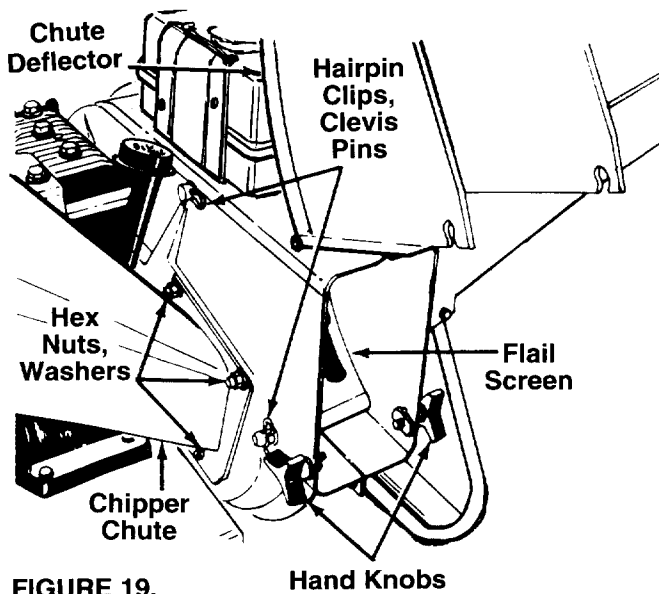

FIGURE 19.
- Remove two hairpin clips from the clevis pins which extend through the housing. Remove the clevis pins. Lift the flail screen from inside the housing. See figure 19.
NOTE: Be certain to reassemble the flail screen with the curved side down as shown in figure 19.
- Remove the chipper chute by removing three hex nuts and washers. A 1/2" wrench is required. See figure 19.
Make certain blades are reassembled with the sharp edge facing the direction shown in figure 19 (sharp edge is assembled toward the slotted opening in the impeller assembly).